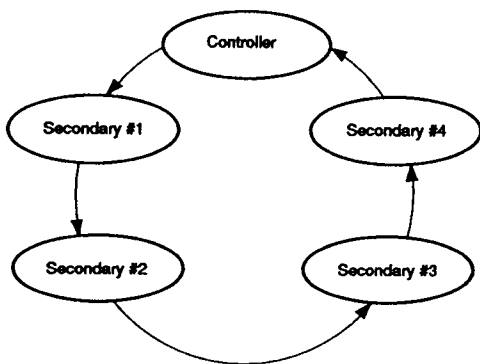

Figure 6. An SDLC Loop
**SDLC Loop Mode.** The ISCC supports SDLC Loop mode in addition to normal SDLC. In an SDLC Loop, there is a primary controller station that manages the message traffic flow on the loop and any number of secondary stations. In SDLC Loop mode, the ISCC performs the functions of a secondary station while an ISCC operating in regular SDLC mode acts as a controller (Figure 6).